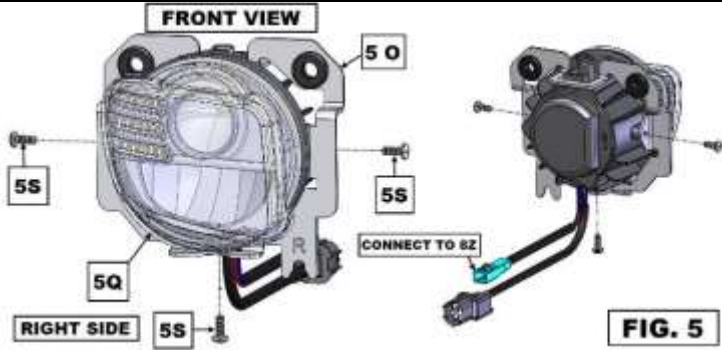
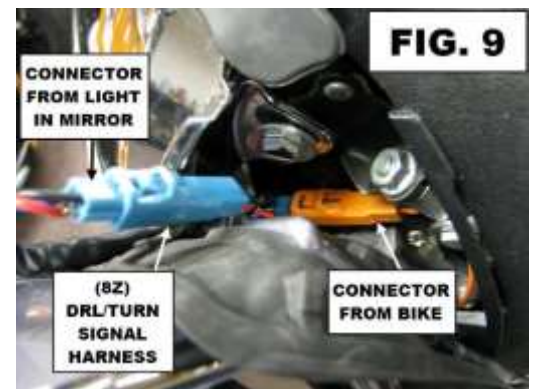

FIG. 5
FIG. 9
10. TAKE THE RIGHT LED LIGHT (5Q) AND ATTACH THE RIGHT LIGHT BRACKET (5O) TO IT USING THREE OF THE M4 X 10MM PAN HEAD SCREWS (5S). SEE FIG. 5
31. UNPLUG THE CONNECTOR IN EACH MIRROR AND ADD IN THE NEW HARNESS AS SHOWN IN FIG. 9. CONNECT THE OTHER END TO EACH FOG LIGHT. SEE FIG. 5.